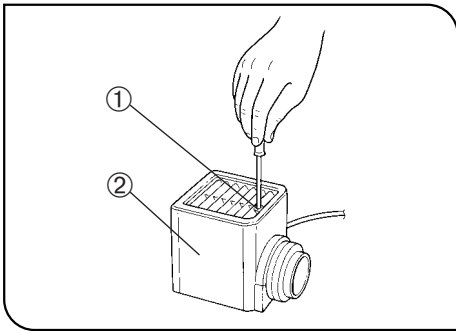

Fig. 35
(Figs. 35 - 37)
5. Slide the lamp housing cover onto the housing base from the above. Tighten the clamping screw ① while pressing downward on the cover. (Fig. 35)